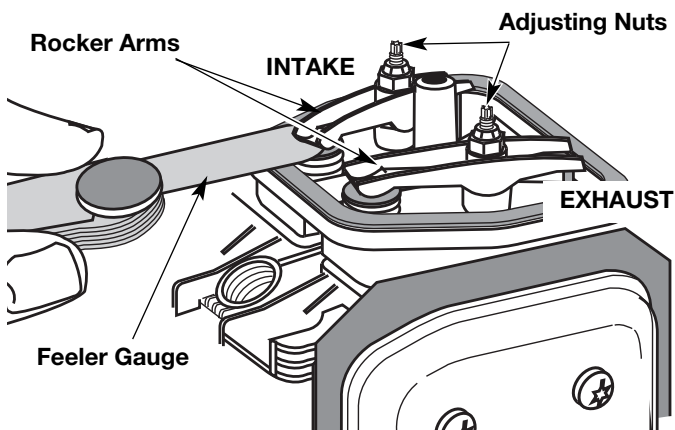

Fig. 26
- The piston is at the top of its travel while looking in the spark plug hole (Fig. 26)
8. Slide the feeler gauge between the rocker arm and the valve return spring. Measure the clearance between the valve stem and rocker arm. Measure both the intake and exhaust valves (Fig. 26 & 27).
The recommended clearance for both intake and exhaust is 0.003 – 0.006 in. (0.076 – 0.152 mm). Use a standard automotive 0.005 in. (0.127 mm) feeler gauge. The feeler gauge should slide between the rocker arm and valve stem with a slight amount of resistance, without binding. See Figure 26 and 27.